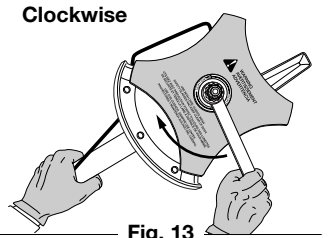

Fig. 13
2. Hold the locking rod in place by grasping it next to the boom of the unit (Fig. 13).
3. While holding the locking rod, loosen the nut on the blade by turning it clockwise with a 13 mm closed-end or socket wrench (Fig. 13).